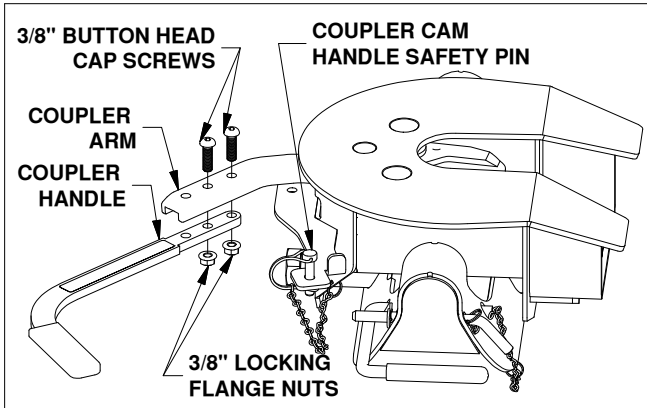

Figure D1: View looking down at side of coupler head.
1. Locate the two 3/8" x 1-1/4" button head cap screws and the two 3/8" flanged lock nuts provided in a bolt bag. Pull out the coupler arm and pin it with the safety locking pin near the base of the arm as shown in Figure D1.
2. Using the button cap screws and the lock nuts attach the coupler handle to the arm and tighten, see Figure D1. Pull out the coupler cam handle safety pin.